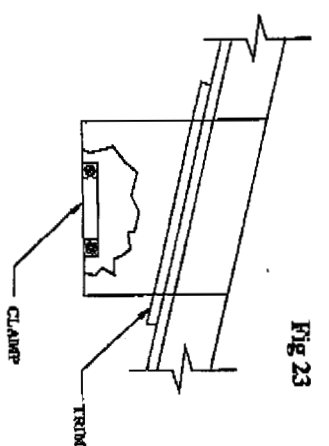

Fig 23
8. Place the Pipe Clamp, (which comes as a component of the Support Box) around the top of the hole in the bottom of the Support Box (Figure 23).